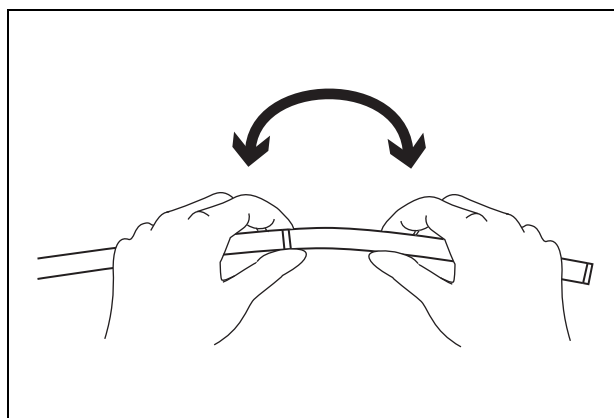

Figure 3.4
6. When inspecting the PCF-PQ260L/I, confirm that the passive bending section bends smoothly by holding both ends of the passive bending section (about 100 mm from the distal end of the endoscope and the distal end of the insertion tube) using both hands and bending it lightly as shown in Figure 3.4 (the passive bending section can be bent almost roughly about 60°).